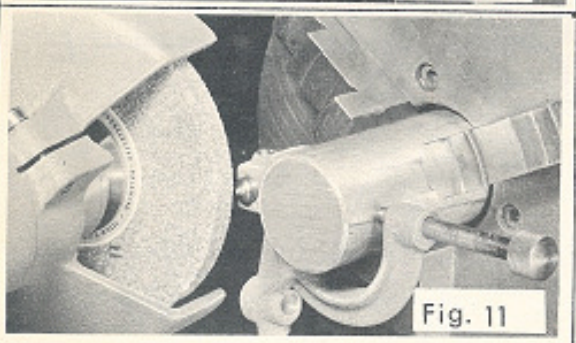

Fig. 11
**FACE GRINDING** -- When face grinding, it is necessary to dress the wheel so that the surface contacting the workpiece is bevelled, as shown in Fig. 12. Clamp the diamond dresser onto the workpiece or a piece of stock chucked in the lathe with the diamond nib facing the operator. Remove the nib by loosening the locking set screw and insert the diamond into the right side slot so that it extends about 1/8" beyond the holder and faces to the operator's right as illustrated in Fig. 11. Pass the wheel lightly back and forth over the nib until a suitable bevel for the particular grinding operation is obtained. The grinding operation will determine the amount of bevel required. However, a small bevelled face will break down faster than a wider face and consequently will require redressing oftener.